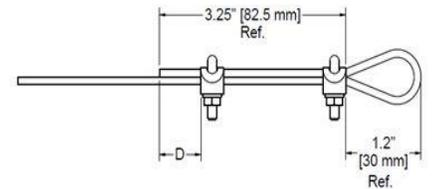

FIG. 03
- Apply the second Wire Rope Clip as near as possible to the loop and saddle the Wire Rope Clip to dimension 3.25" or 82.5mm. [SEE – FIG. 03]